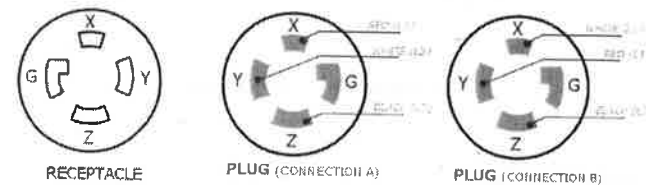

FIG. 2
Before completing the electrical connection, check the worm (13) rotation. When the ON button is pressed, the worm must rotate counter clockwise, seeing the equipment in front. If the worm rotates clockwise, push the stop button and unplug the equipment. Interchange 2 of 3 incoming power supply wires. (See fig. 2)